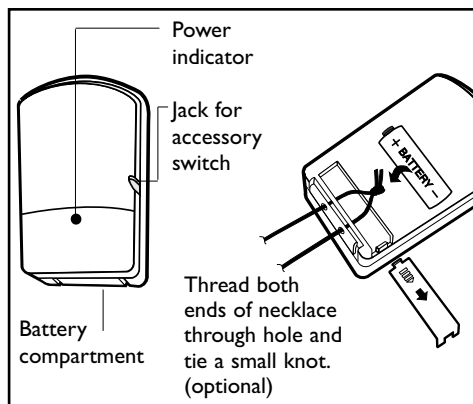

Figure 4 – Remote Transmitter
2. Install the "23A" size 12V alkaline cigarette lighter battery in the Remote Transmitter (included) as shown (Fig 4). With normal usage, it lasts 6–12 months. If the power indicator light is faint or does not come on when the button is pressed, replace the battery. The Remote Transmitter has an operating range of up to 40 feet.